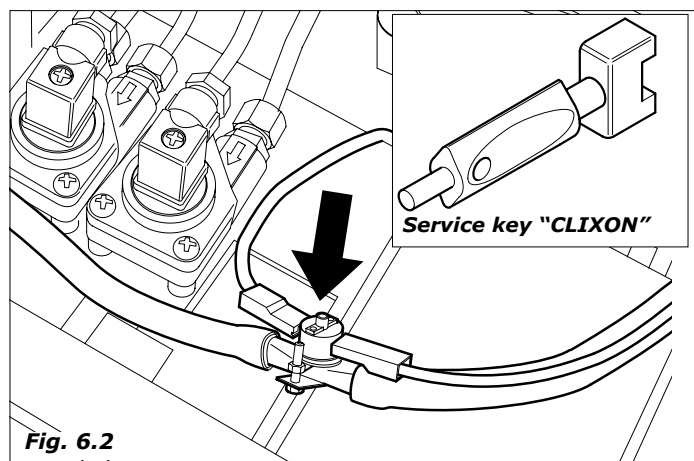

Fig. 6.2
In the event that the pressure indicated by the pressure gauge (1) goes up to over 1.6 bar, an automatic machine stop device (Clixon – Fig. 6.2) immediately switches the machine OFF.